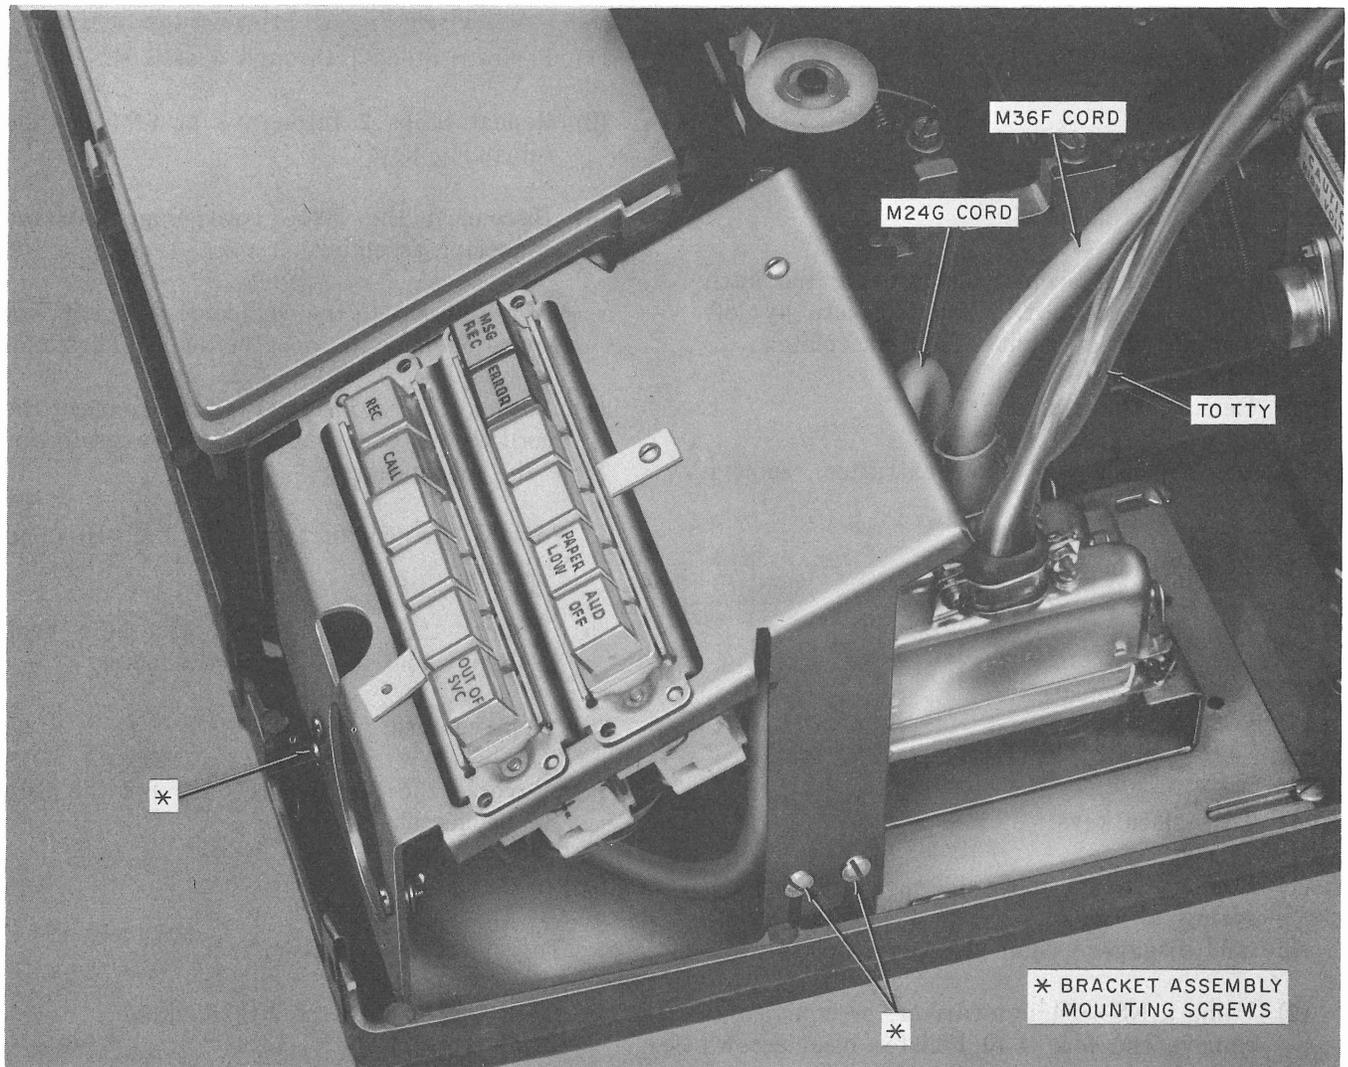
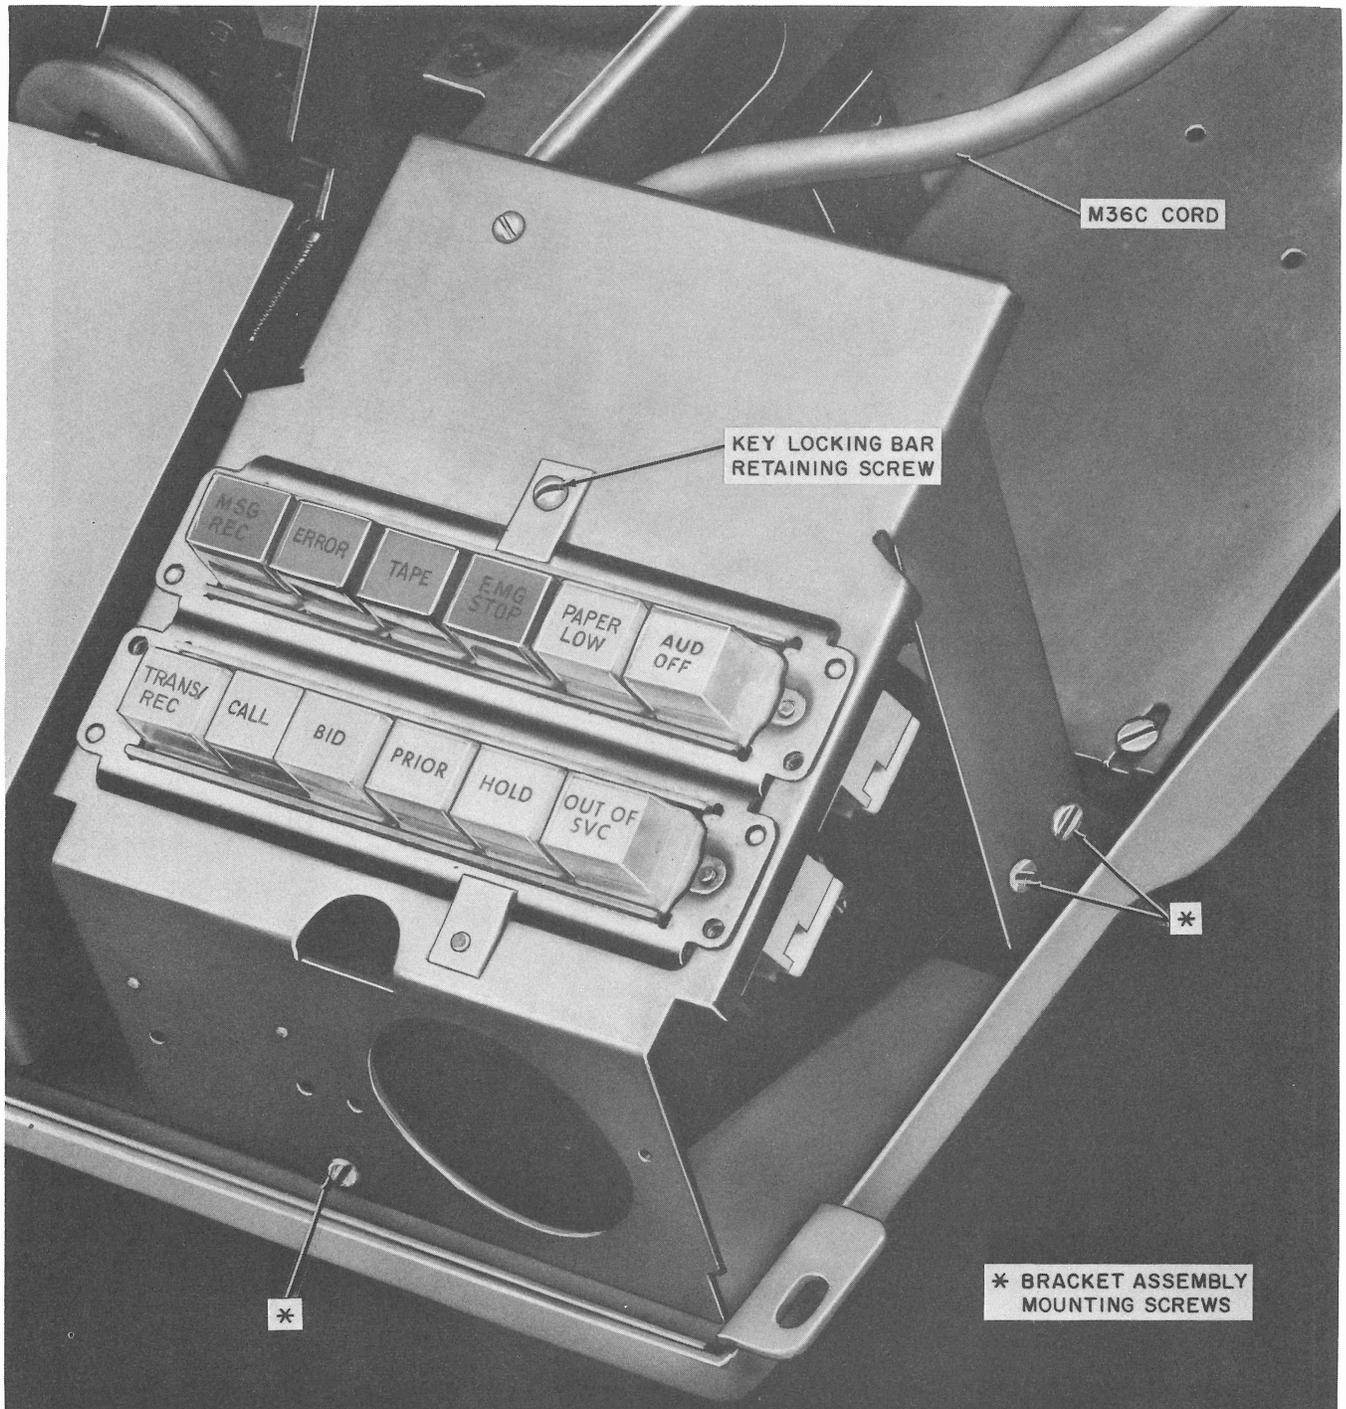

Fig. 7—Data Auxiliary Set 804N2, Mounted in Model 33 RO Teletypewriter
Fig. 8—Data Auxiliary Set 804N4, Mounted in Model 35 ASR Teletypewriter
- (1) Loosen the key locking bar retaining screw (Fig. 7) on DAS 804N-type.
- (2) Remove cord-retaining screw and nut.
- (3) Lift the 635J2 key sufficiently to clear the bracket.
- (4) Release spring-retaining clips which hold the plug to the key and remove plug.
- (5) Rotate the front key locking bar to clear the 635K2 key.
- (6) Lift the 635K2 key sufficiently to clear the bracket.
- (7) Release spring-retaining clips which hold the plug to the key and remove plug.
- (8) Connect plugs to 635K2 key and 635J2 key to be installed.
- (9) Lower keys into bracket. Seat the 635K2 key in the keying pins and rotate the front key locking bar to retain the key.
- (10) Seat the 635J2 key in the keying pins and replace the key locking bar retaining screw.
- (11) Replace cord-retaining screw and nut.
- (1) 33-type TTY
- (b) Loosen, but do not remove the five bracket assembly mounting screws (Fig. 7).
- (2) 35 ASR or RO TTY
- (b) Loosen, but do not remove the five bracket assembly mounting screws (Fig. 8).